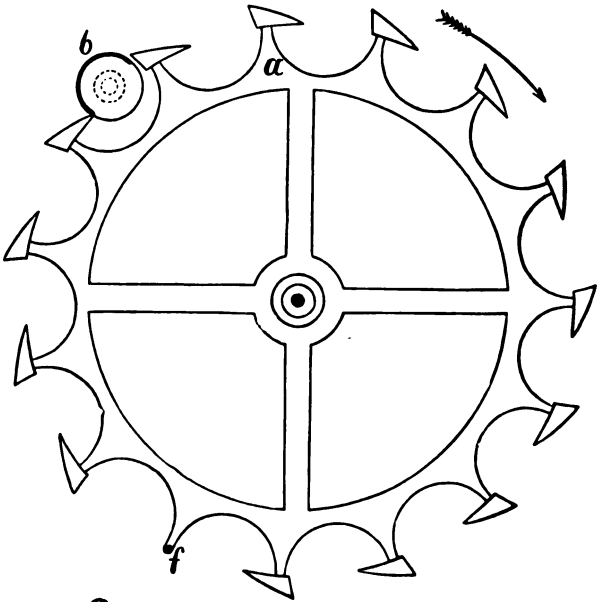
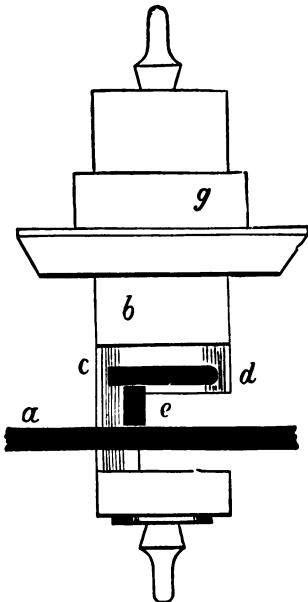

Fig. 1. Plan.
Fig. 2. Elevation of Cylinder and one Tooth of Escape Wheel therein
**Action of the Escapement.**—Fig. 1 is a plan of the cylinder escapement, in which the point of a tooth of the escape wheel is pressing against the outside of the shell of the cylinder. As the cylinder, on which the balance is mounted, moves round in the direction of the arrow, the wedge-shaped tooth of the escape wheel pushes into the cylinder, thereby giving it impulse. The tooth cannot escape at the other side of the cylinder, for the shell of the cylinder at this point is rather more than half a circle; but its point rests against the inner side of the shell till the balance completes its vibration and returns, when the tooth which was inside the cylinder escapes, and the point of the succeeding tooth is caught on the outside of the shell. The teeth rise on stalks from the body of the escape wheel, and the cylinder is cut away just below the acting part of the exit side, leaving only one-fourth of a circle in order to allow as much vibration as possible. This will be seen very plainly on examining Fig. 2, which is an elevation of the cylinder to an enlarged scale.